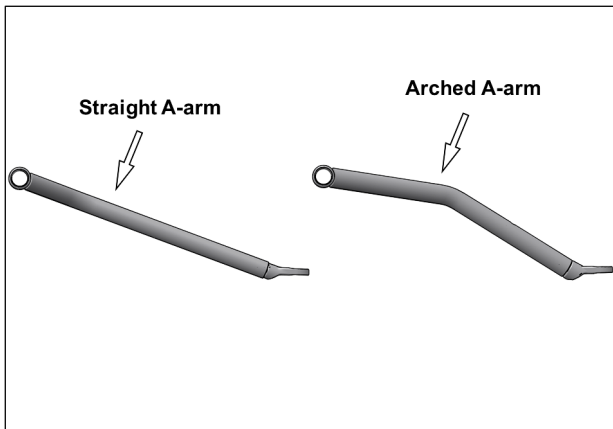

Fig. 15
**CAUTION:** Lower front suspension arms come in straight or arched versions, depending on the vehicle. The bracket installation differs slightly for each version. See Fig. 15